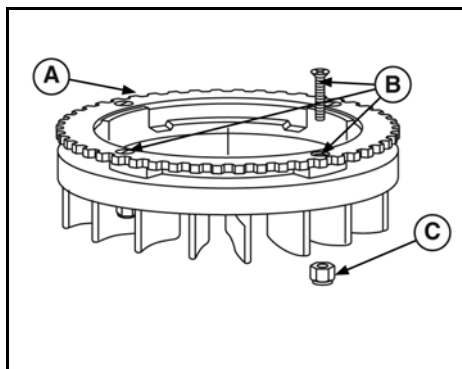

Figure 19
When starter switch is activated, pinion gear (A, Figure 19) should engage the ring gear and crank engine. The clutch should not slip during engine cranking and pinion gear shouldn't bind on the helix (B).